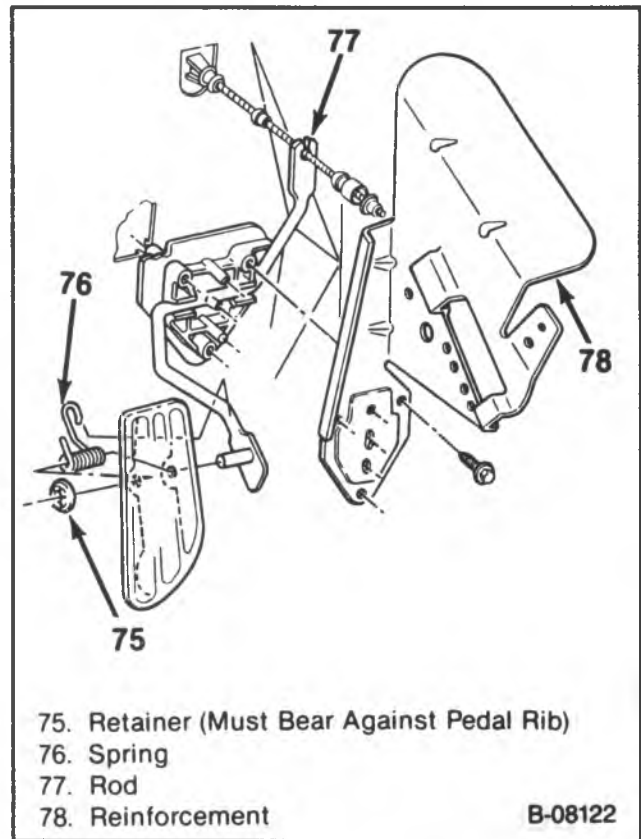

Figure 22 — Accelerator Pedal Assembly
- Slip the accelerator control cable through the slot in the rod before installing the retainer in the rod. Make sure it is seated properly. Use care in pressing the retainer into the hole so the cable is not kinked or damaged (figure 22).